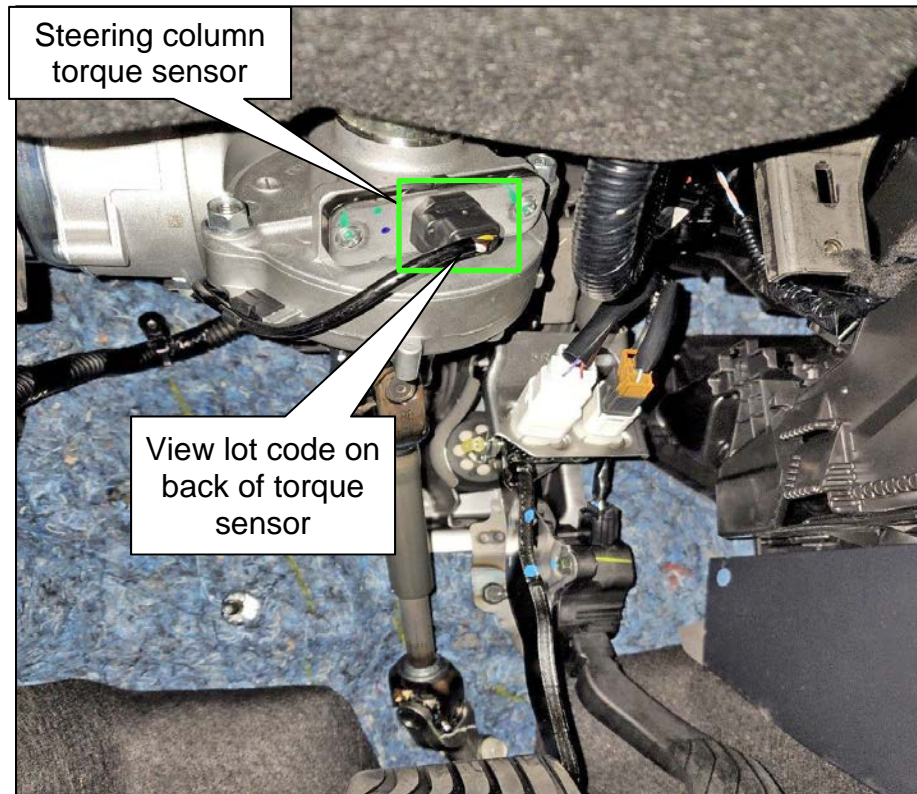

Figure 10
21. Locate the steering column torque sensor (Figure 10).